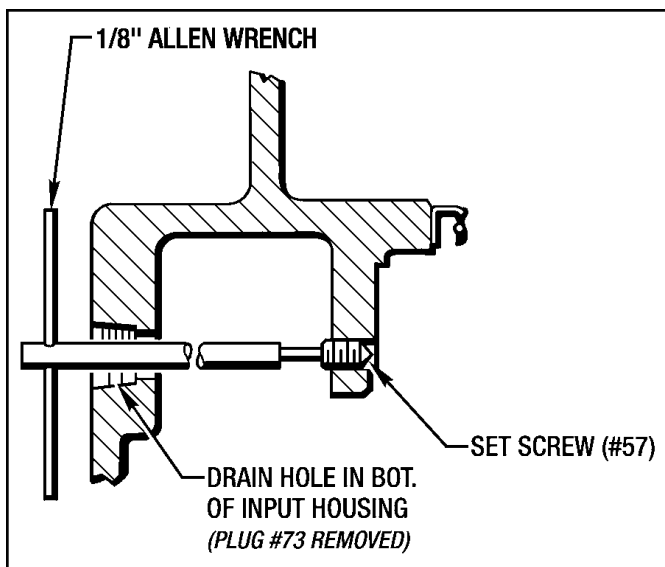

Figure 9.12 - Installing Set Screw (#57)
3. Loosely install the Set Screw (#57) into the Input Housing (#8) with Blue Loctite #271 as shown in Figure 9.12. **Make sure the screw does not protrude into the bearing bore.**